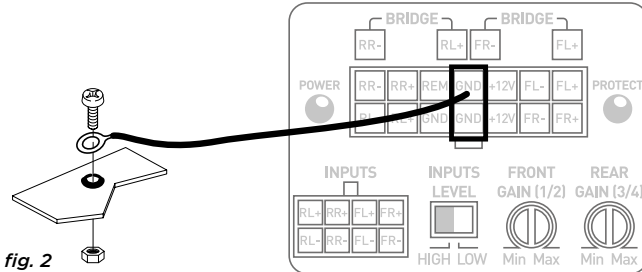

fig. 2
10. Prepare the chassis ground by scraping off any traces of paint on the metal surface in order to ensure proper grounding. The grounding connections should also be as short as possible and ALWAYS be connected to metal welded to the body or the chassis of the vehicle (*fig.2*). The ground point which is generally chosen is the one connecting the negative terminal of the battery to the chassis of the vehicle.
3.3.2 - Get the negative power cable (-). This cable should be as short as possible and ideally shouldn't be any longer than 3ft (1m), to ensure a perfect connection between the amplifier and the chassis of the vehicle. The cable and wire gauge must comply with the table in section 3.1. Find a suitable grounding point, then sand it to remove any traces of paint or other coating in order to optimise the quality of the contact point. Drill a hole in the metal that you have previously sanded, making a hole the same diameter as the screw you are using, making sure that there are no fuel lines, cables or any other sensitive vehicle devices nearby. Solder the ground cable to the wiring harness supplied for your IMPULSE 4.320 amplifier and isolate using heat-shrink tubing (**fig. 2**).